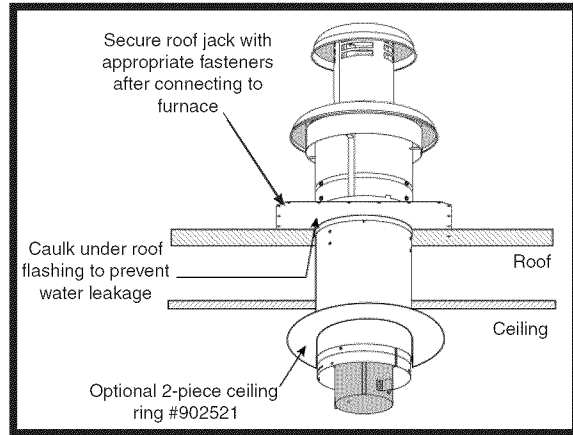

Figure 20. Flat Roof
1. Apply caulking compound on underside of roof flashing to form a continuous strip at least 3/8" wide around the underside of the perimeter of the flashing. See Figures 20 or 21.